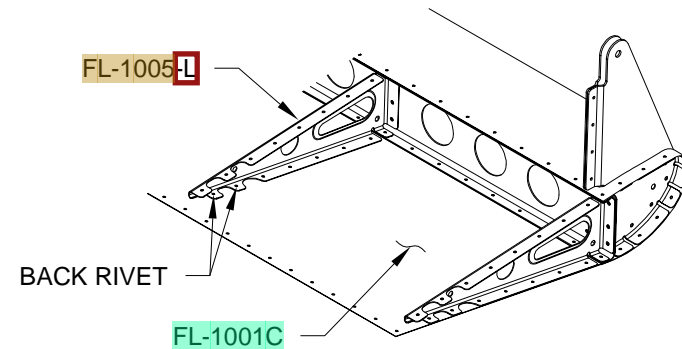

FIGURE 1: BACK RIVETING TOP SKIN
Step 1: Remove the structure from the cradles and lay it top side down on a flat plate, letting the nose rib clecos hang over the edge of the table. Back rivet the two aft most rivets in the top flange of the **FL-1005** Main Ribs to the **FL-1001C** Top Skin as shown in Figure 1. (AN426AD3-3.5 Rivets, which were used to attach the forward portion of the ribs to the skins, have a tendency here to bend over when back riveting. Therefore, the shorter AN426AD3-3 rivets are used.)